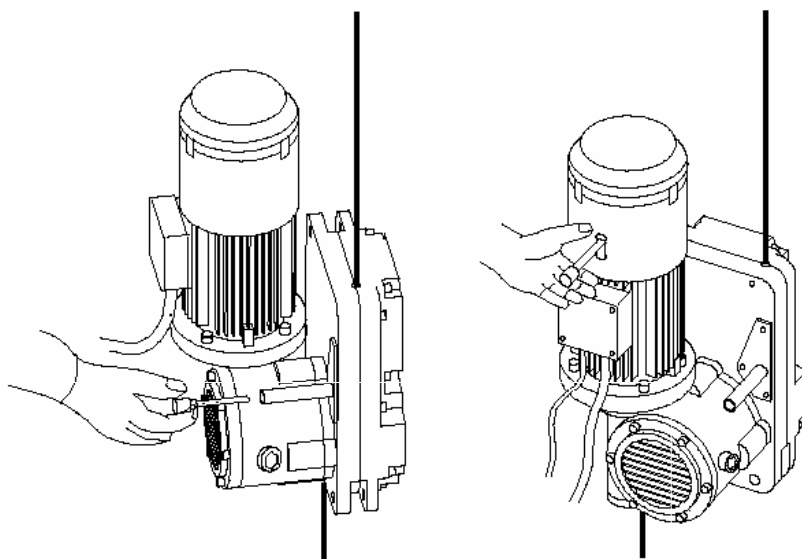

Рис. 4
(См.рис. 4)
Attached figure 4: Hoist (B) for ZLP800